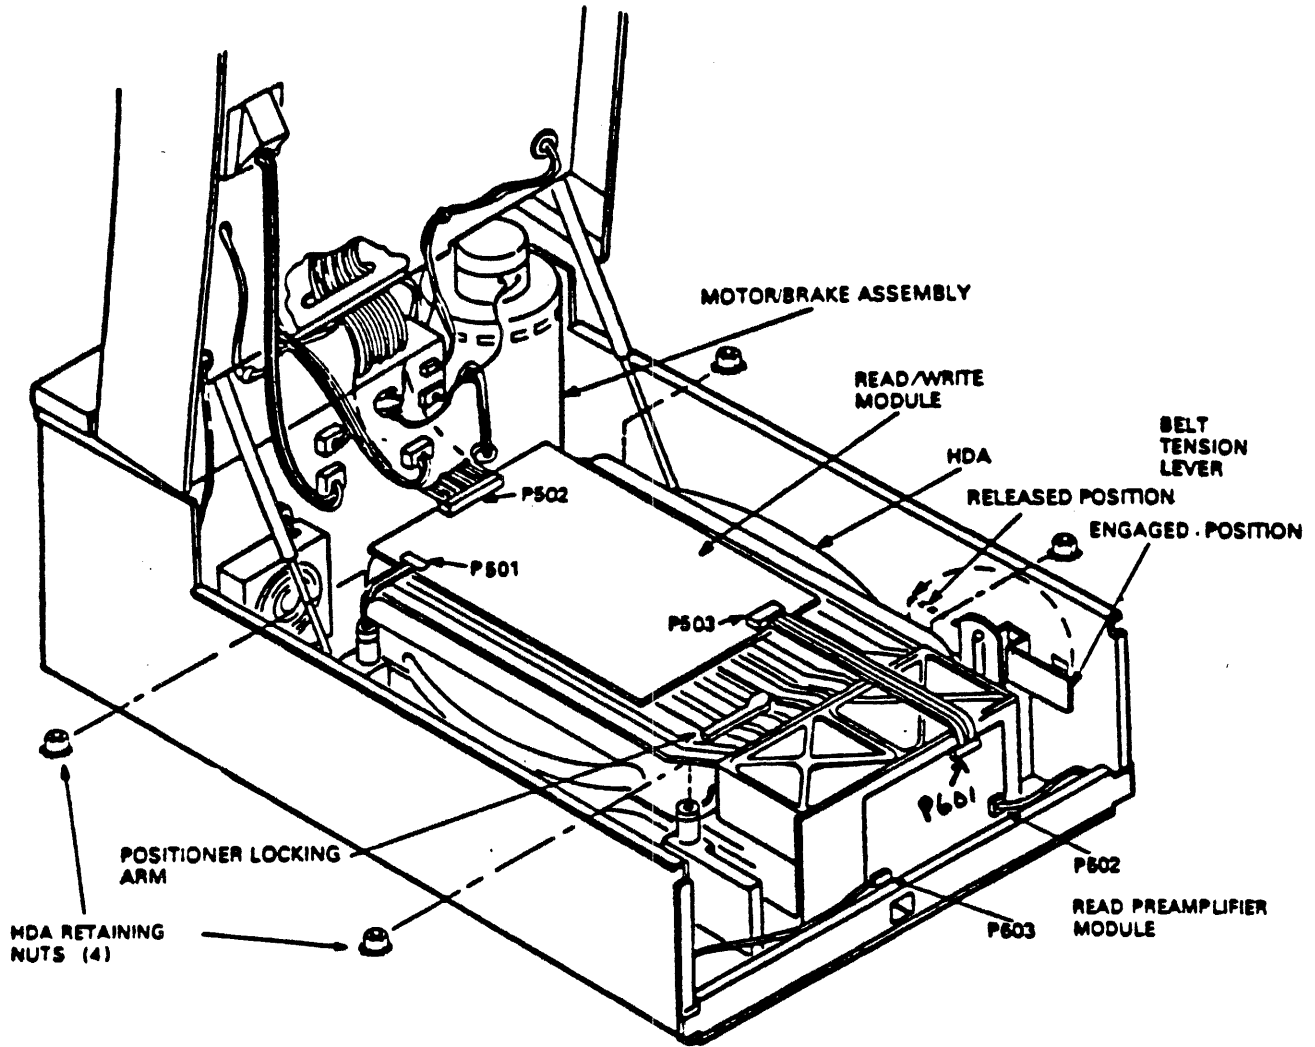

FIGURE 8
5. Reattach the four (4) HDA hold down nuts to the shock mounts. The nuts should be quite firm and snug, but only be FINGER TIGHTENED. (Figure 8)
6. Once FCO RA81X-R-009 and RA81X-I-014 have been completed, then reattach the Read/Write module using the four (4) hold down screws
7. Reconnect cables P501, and P502 to the Read/Write module. (Figure 8)
8. Reconnect cables P601, P602 and P603 to the bulkhead cover. (Figure 8)
9. Place the belt tension lever in the engaged position. (Figure 8)
10. Place the positioner lock arm in the unlocked position and remove the E.S.D. wrist strap from the ground stud. (Figure 8)